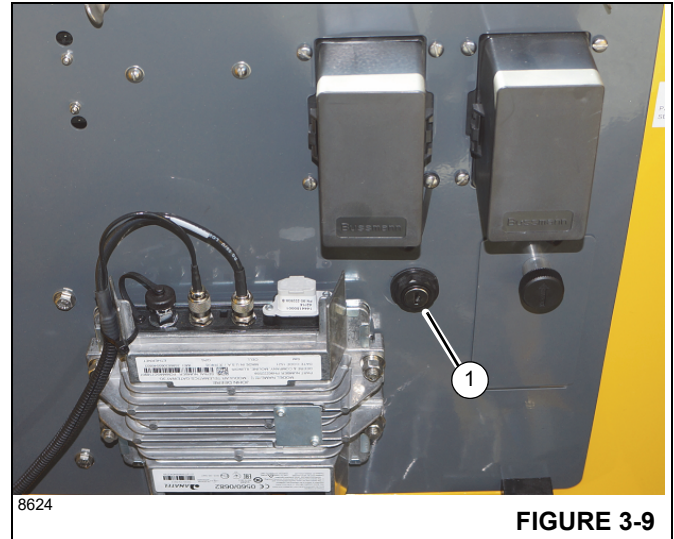

FIGURE 3-9
The fuse panel (1) Figure 3-9 is located behind the cab seat on the cab fuse and relay panel assembly. It contains up to 20 fuses that protect various electrical components.
The Limit Bypass Switch (1) (Figure 3-9) is a two-position, maintained type key switch that is located inside the operator cab on the panel assembly behind the seat. In an emergency situation only, turn switch clockwise to bypass the following limiter systems and their craning function lockouts: